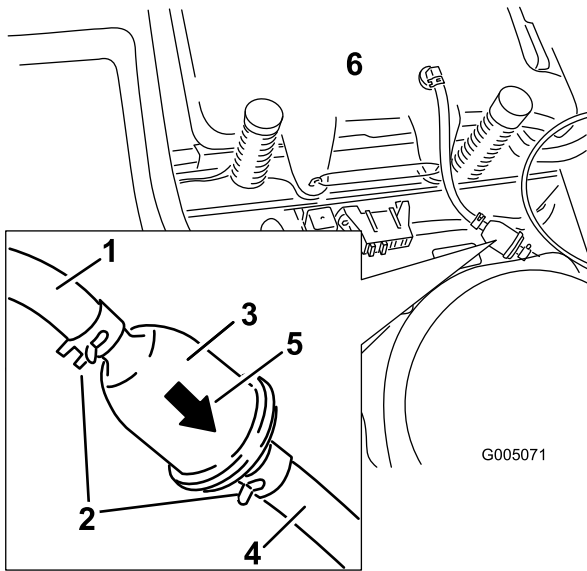

Figure 37
4. Squeeze the ends of the hose clamps together and slide them away from the filter (Figure 37).
6. Install a new filter with the flow direction arrow coming from the fuel tank and pointing to the engine. Move the hose clamps close to the filter (Figure 37) to secure it in place.